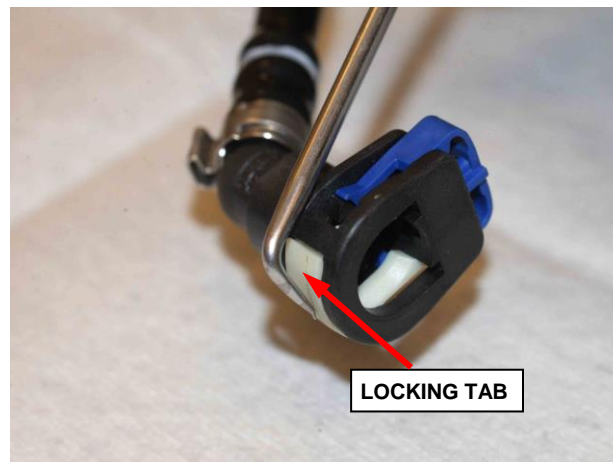

Figure 23 – Fuel Supply Line Clip at High Pressure Pump
34. Using an appropriate tool, release the locking tab on the fuel line, and remove it from the vehicle (Figure 23).